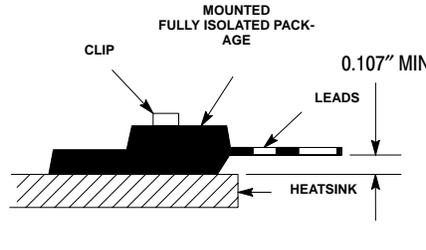

Figure 4. Clip Mounting Position for Isolation Test Number 2
1. UL Recognized mounting method is per Figure 4
- UL Recognized mounting method is per Figure 4